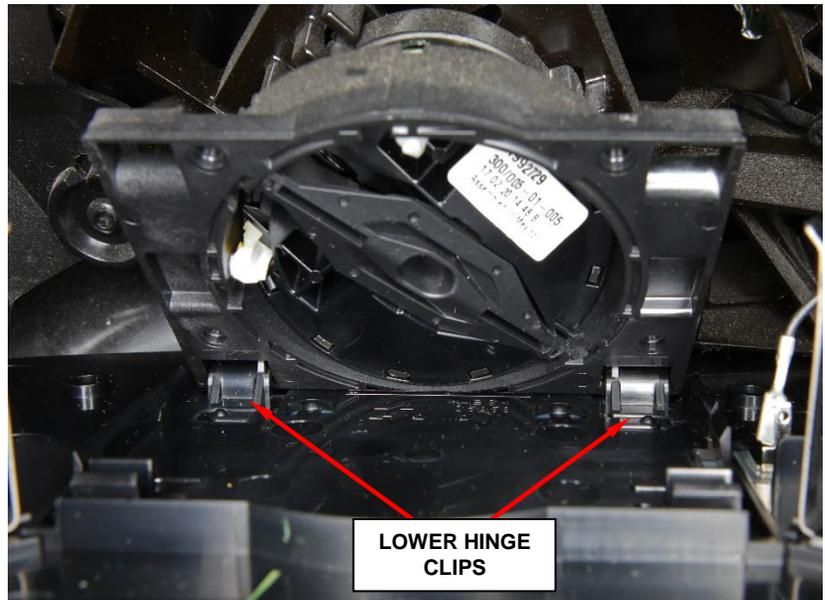

Figure 6 – Mirror Lower Hinge
3. Position the **NEW** mirror glass assembly into the housing and seat the lower hinge type clips fully (Figure 6).